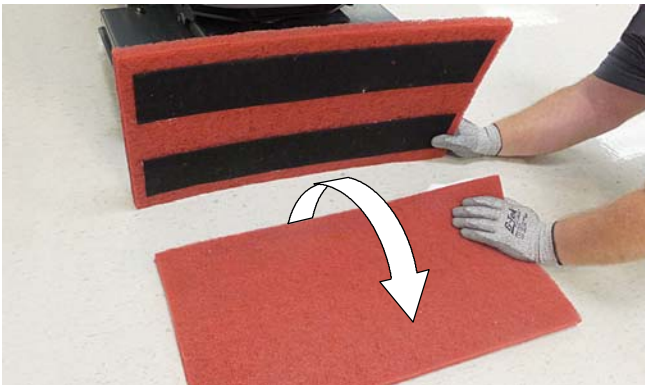

FIG. 99
- Orbital scrub head - Turn the working pad over or replace when worn (Figure 99).